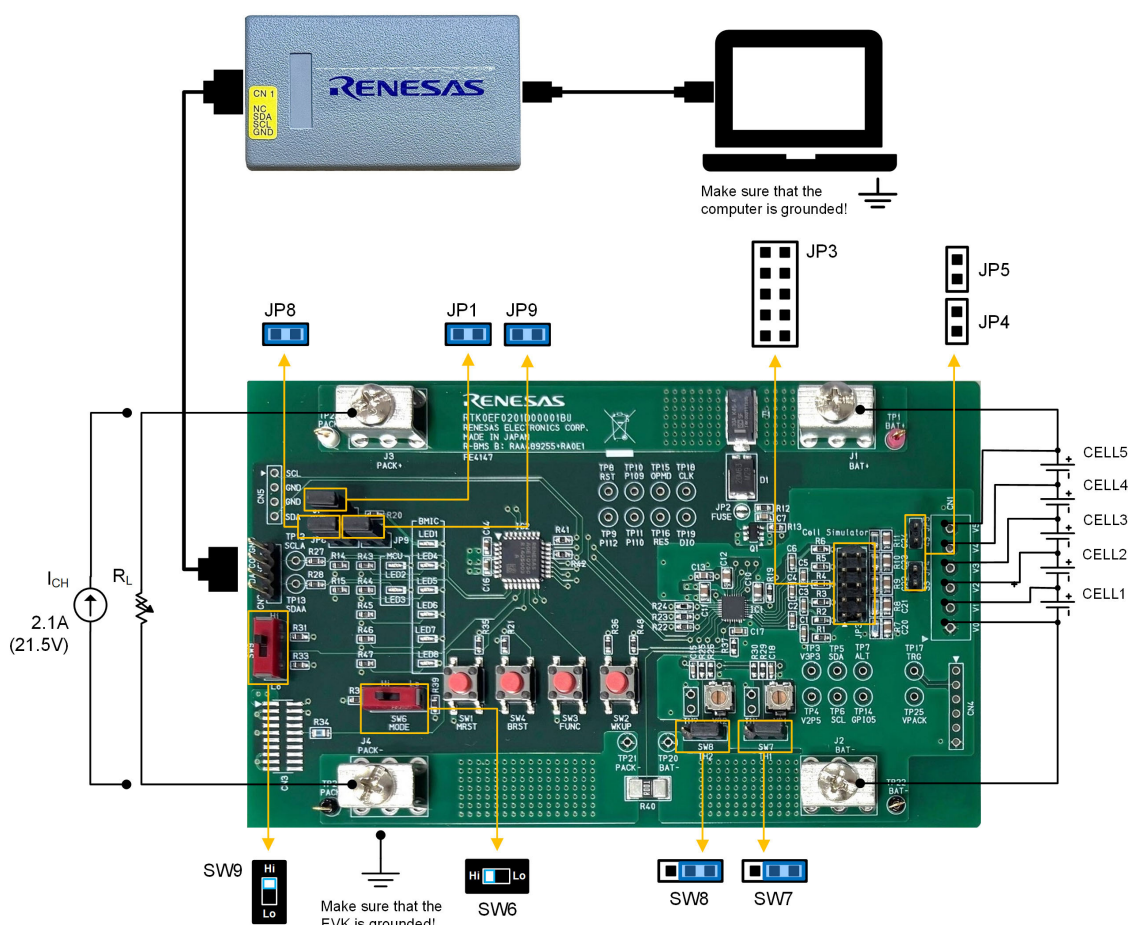

Figure 5. R-BMS B for the RAA489255 Test Setup for 5S using Li-Ion Battery Cells
Figure 5 shows the test setup when using five Li-Ion battery cells, connected in series. The positive and negative terminals must be connected between J1 (BAT+) and J2 (BAT-) of the reference board to provide a high current path for the charge and discharge currents.
2. Connect the RTK0EF0201D00001BU reference board and USB SMBus Converter interface adapter as shown in Figure 5. Ensure that all jumpers are installed as shown in the figure and all switches are in the correct position (There must be no jumpers on SW3, SW4, and SW5).
7. Connect the battery cells as shown in Figure 5, starting with the negative terminal. Ensure that LED1 is illuminated.
- a. Set the electronic load to consume 2.1A, enable its output and connect it to the PACK- and BAT- terminals of the reference board as shown in Figure 5.
- b. Configure the I_{CH} power supply to source 2.1A with a voltage limit of 21.5V, enable its output and connect it to the PACK- and BAT- terminals of the reference board as shown in Figure 5.